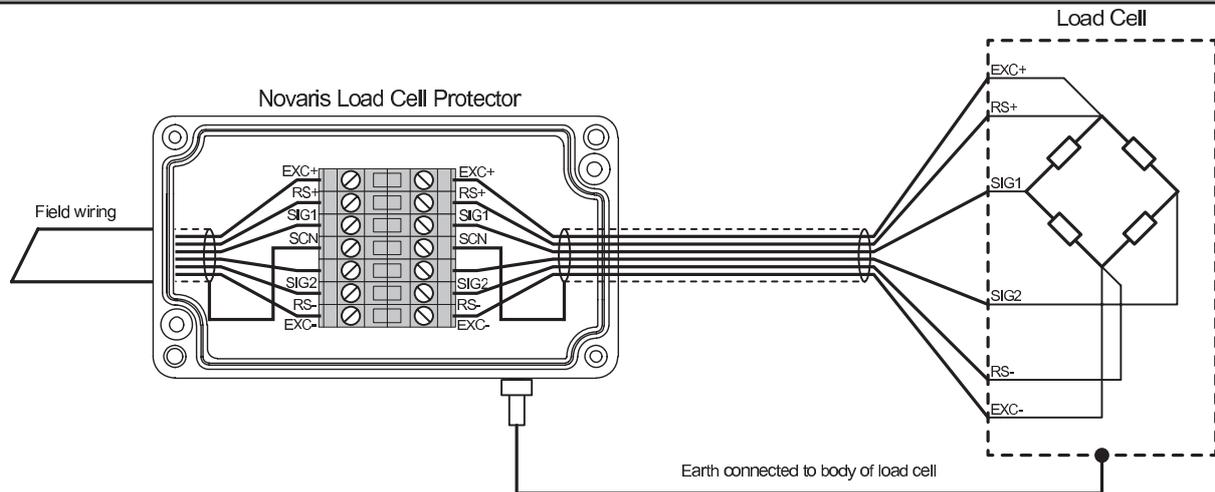

Figure 3: Installation of load cell protector
- 3.4 **Wiring:** Load cell protectors are connected in series with the equipment (Figure 3).